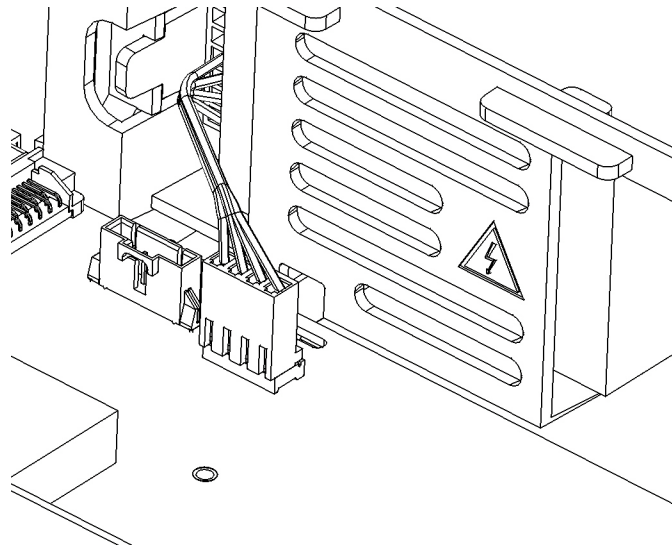

Figure 4-2. Jumper Cable Installed
- 3 Repeat steps 1 and 2 for the other end of the jumper cable where it connects to the AC power supply assembly (6-pin connector) on the side wall of the instrument. See Figure 4-2. Set the jumper cable aside in a safe location in case it is needed in the future.